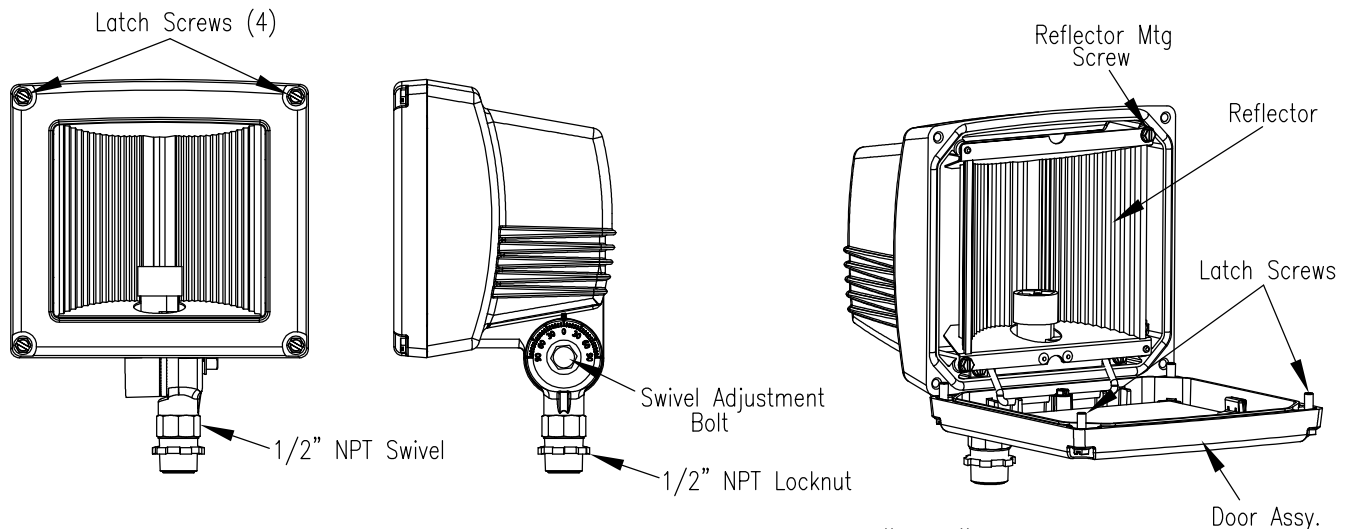

FIG. 1
- 2) Loosen (4) latch screws and open door assembly.(FIG.1)
- 4) Close door frame assembly and secure with (4) captive screws.
VERTICAL AIMING: Loosen the swivel adjustment bolt (Fig 1) and rotate unit to desired position. Re-tighten swivel adjustment bolt to secure in desired location.
- 1) Loosen (4) latch screws and open door assembly.(FIG.1)
- 2) Remove the (2) reflector mounting screws and rotate reflector to desired position. Replace (2) reflector mounting screws.